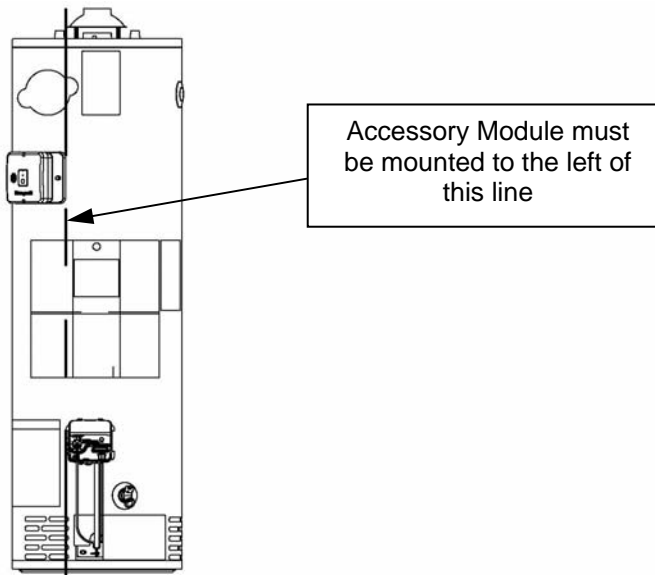

Figure 4
Step 4: The Accessory Module must be mounted to the left of the water heater gas control. Hold the Accessory Module to the water heater jacket as high as possible and practical. Do not cover any safety or warning labels on the water heater. This is shown in Figure 4.